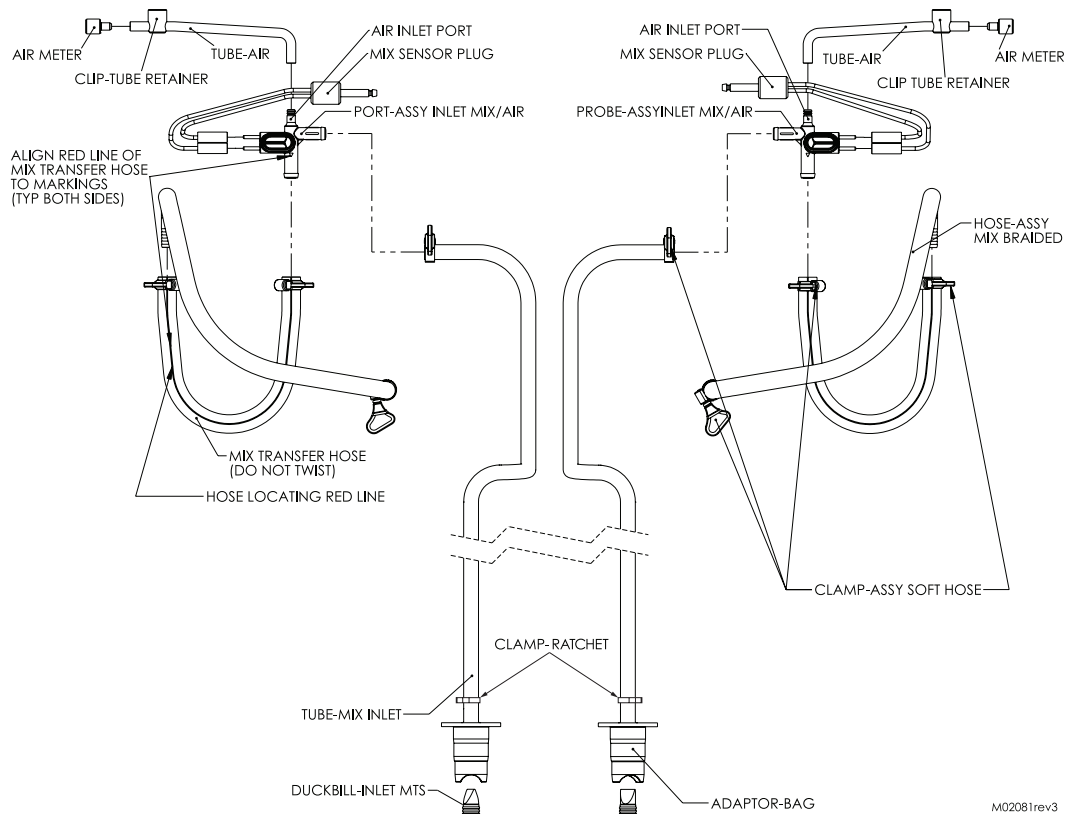

Figure 9-5 MTS Hose Assembly
12. Assemble the MTS hose assembly as shown in figures 9-5. The transfer hose has a red locating line. With the red locating line up, slide the mix transfer hose onto the port and align red line to arrow on connector. Then slide a clamp over the hose to secure it to the port. Insert 90° elbow into transfer hose and align so elbow is 45° up from work surface, slide clamp in position. Finger tighten only! The thumbscrew must lie parallel to the mix/air inlet port.